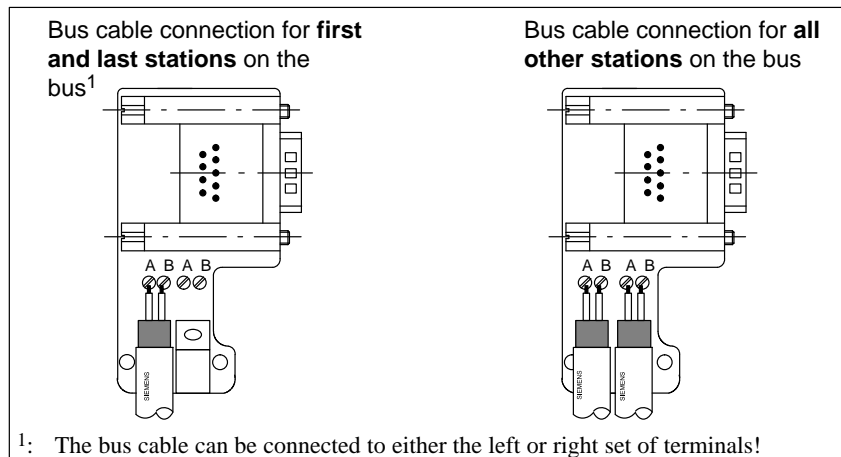

Figure 3-9 Connecting bus cable to bus connectors with order number 6ES7 972-0B.11 ...
3. Insert the green and red conductors in the screw terminals as shown in Fig. 3-9.